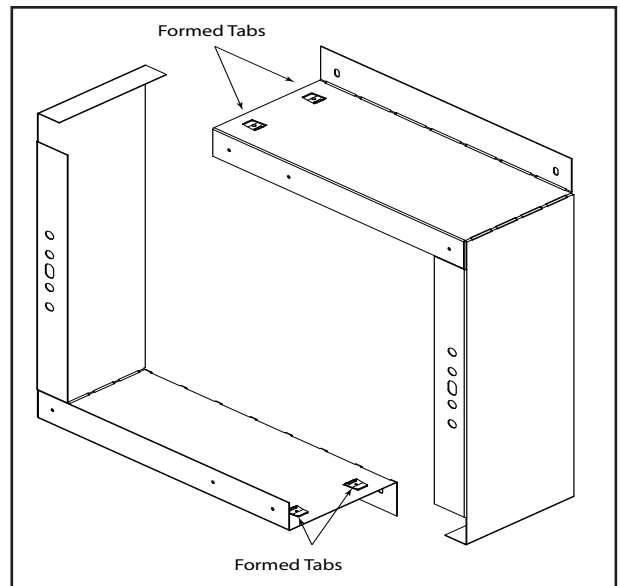

Figure 2.8 Bend BEK Sections
5. Assemble the Heat-Out-BEK kit. Bend the two sections of the Heat-Out-BEK kit as shown in Figure 2.8.